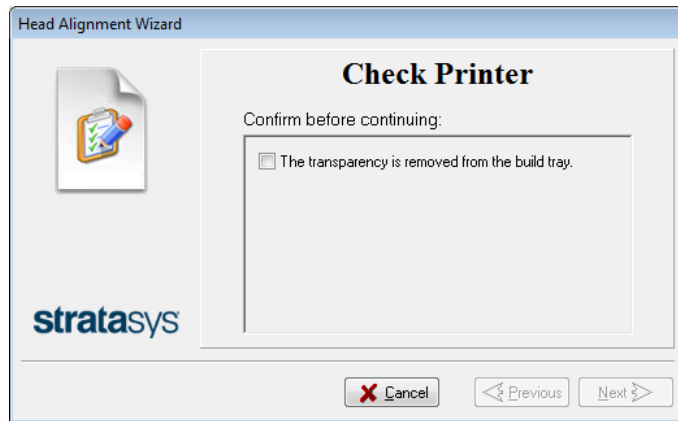

Figure 4-50 Head Alignment wizard—steps 6–8
- In the wizard screen shown in Figure 4-50, select the *Transparency removed* check box, and click **Next**.